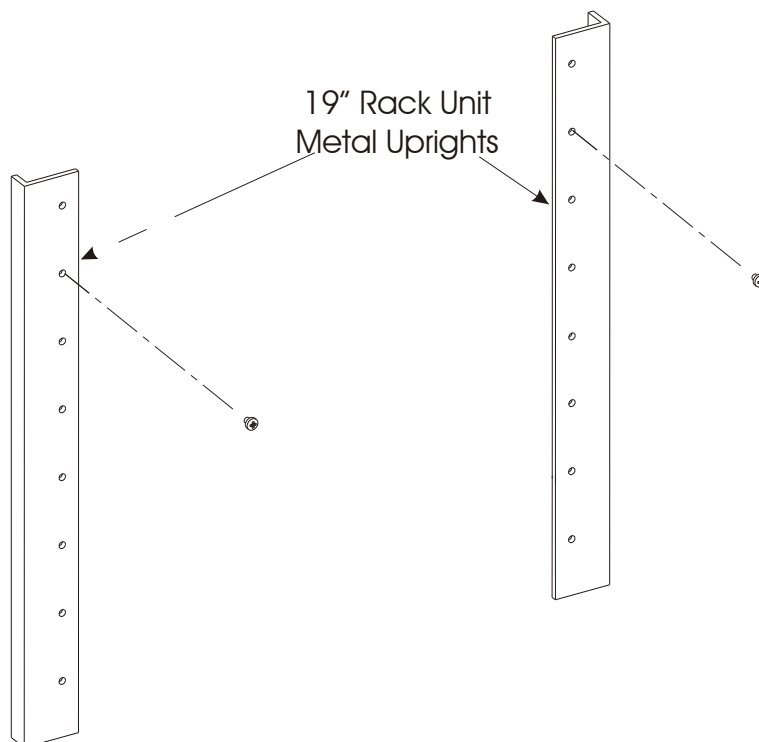

Figure 2-5 Screws for Hanging 19" Frame in Rack Unit - Exploded View
- 2) Screw one M5 screw (not supplied) into the upright of the 19" rack unit, to correspond to the top keyhole on the metal bracket. Repeat on the opposite upright. See Figure 2-5.